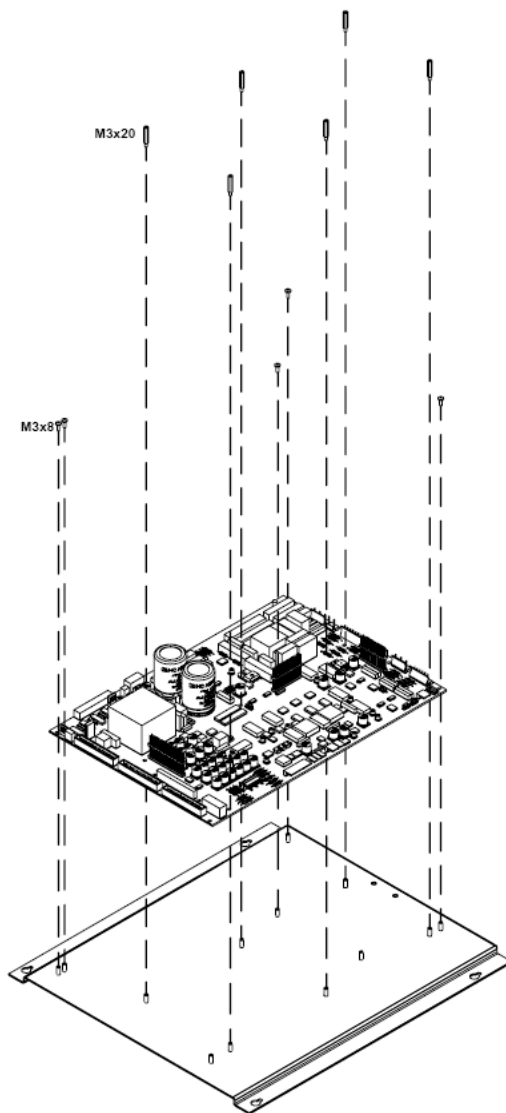

Figure 7.6 (b). Disassembly of the Power Board.
- 3) Connect all the wiring of the Power board. (figure 7.6(a)).